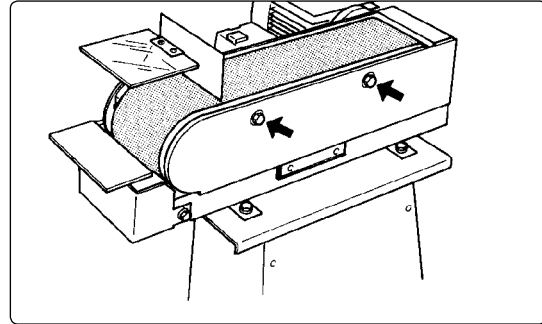

fig 14
8.2.2. Remove the two screws in (fig 14), open the belt cover and remove the used belt.